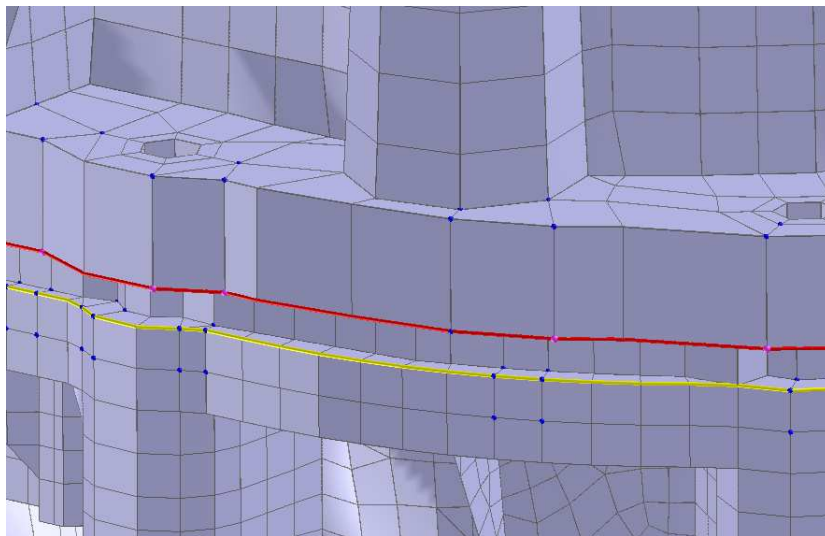

Figure 5.38: Seam 2.
- Repeat steps mentioned above to create Seam 2. See Figure 5.38.